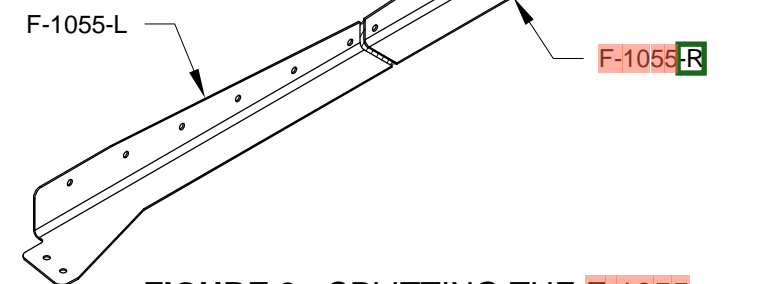

FIGURE 2: SPLITTING THE F-1055 RUDDER STOP SKIN STIFFENER
Step 4: Locate the F-1055 Rudder Stop Skin Stiffener and split it between the notches to form the individual parts shown in Figure 2.